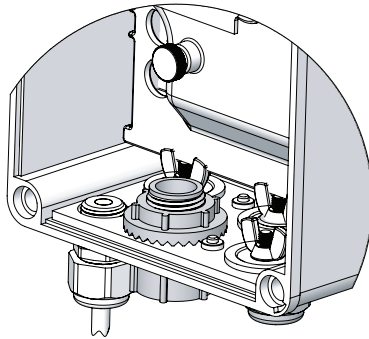

Figure 5: Grounding connection
3. Remove the appropriate hole plugs from the bonding plate. The two near the back are intended for high voltage use. Use proper connection hardware to ensure grounding connection to metal bonding plate. (see Figure 5)